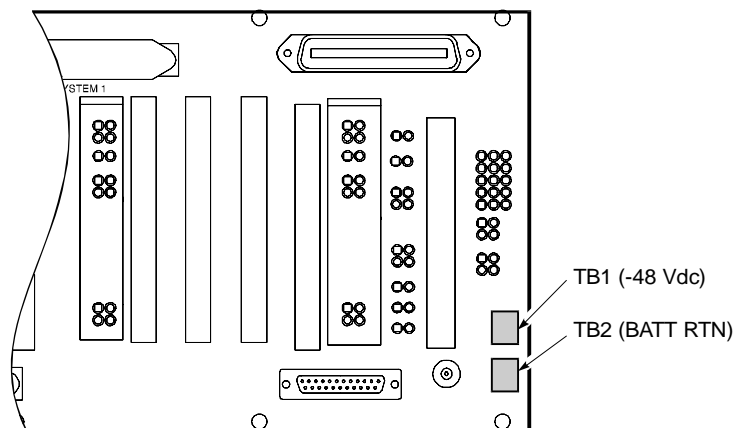

Figure 5. Connecting the CO Battery
- 4 Connect the battery (Figure 5):